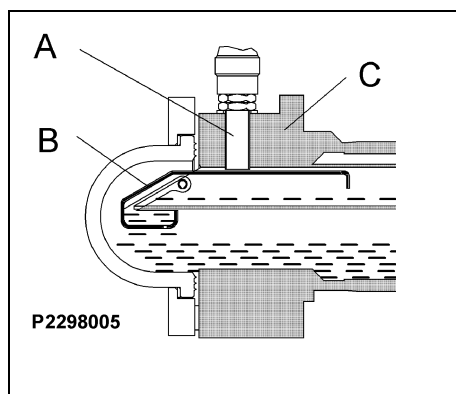

Fig. 147
The proximity switch A transmits a signal to a control with whose aid the oil flow is monitored (see Fig. 147).
- Fig. 147: Switching status 1 „no alarm“ Rocker actuated (reservoir filled).
- Actuate rocker B by hand to attain the switching status shown in Fig. 147 .